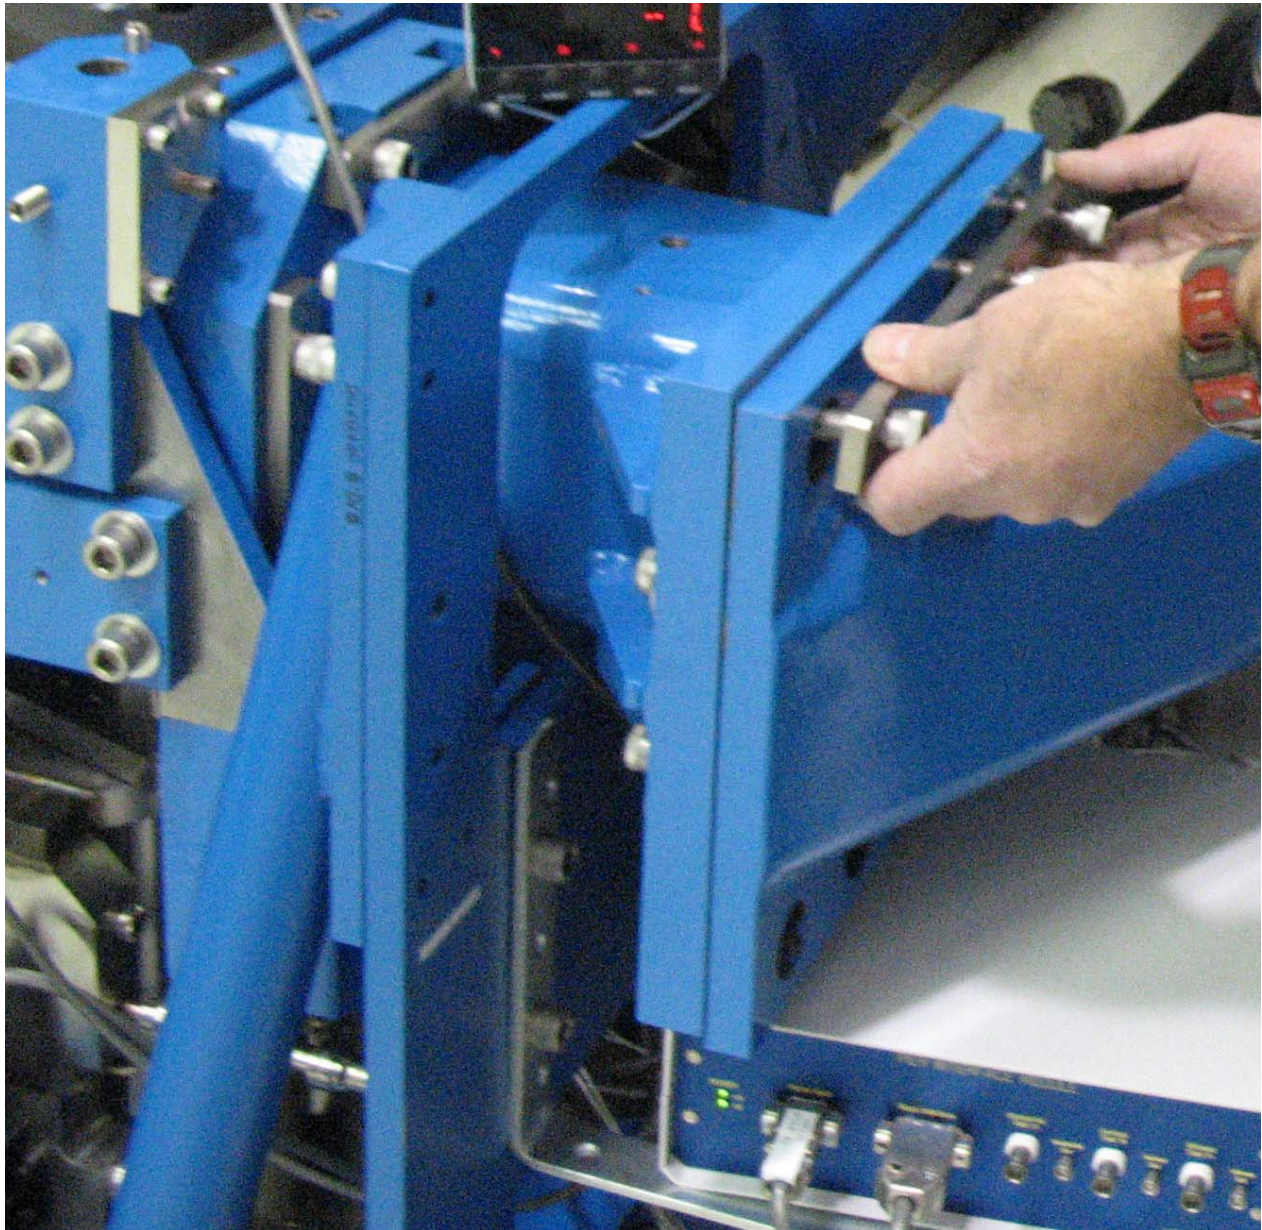
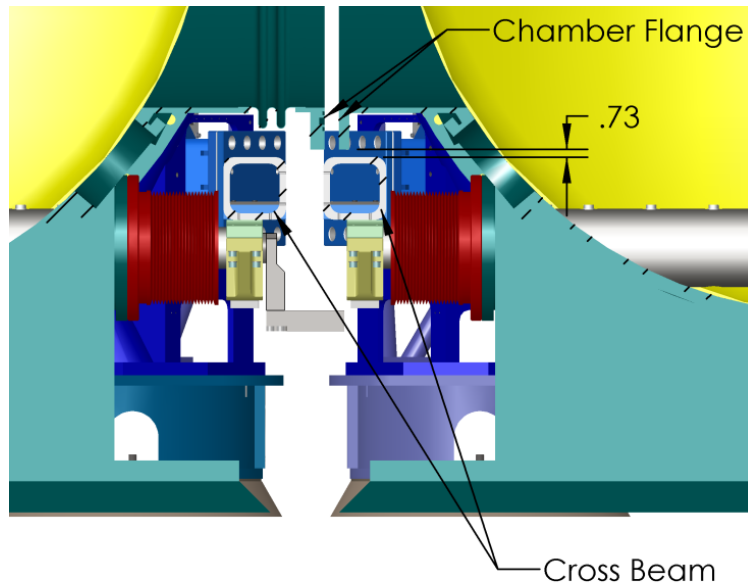
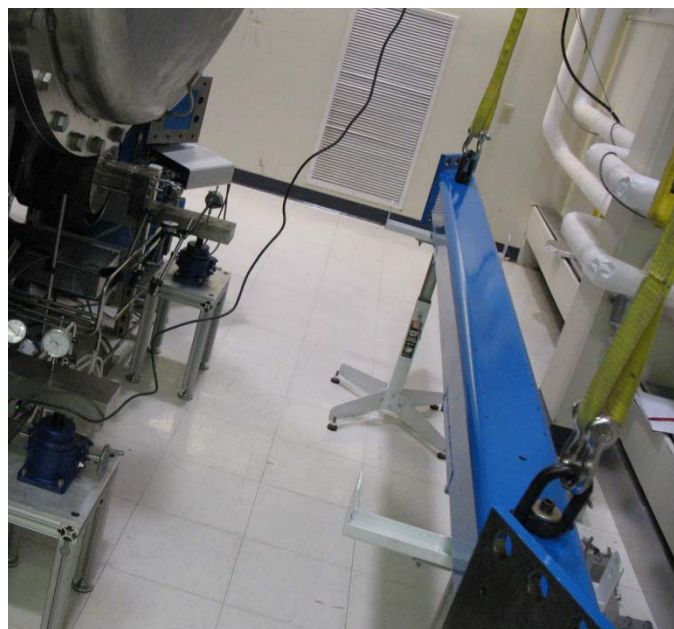

Figure 6
Figure 7
Figure 8
5.6 When the Support Structure is attached to the jack stands and overhead crane, as described above, the bolts between the Crossbeam and the Crossbeam Connector on either end should be loosened. Check the load cell readings on the crane, to ensure smooth transfer of weight. Simultaneously watch for changes in the height of the Support Tubes, as measured with the dial indicators. Once you are sure the weight is properly supported by the jack stands and the crane, you may begin loosening the screws within the Clamps. Once the Clamps are loose, you should raise the Crossbeam straight up and out, such that it comes out of contact with the Tubes. Remove the remaining pieces of the Clamps. Figure 6. and Figure 8
Note: On the chamber side without the bellows there is only .73 inches nominal between the top of the Cross Beam and the Bottom Tangent point of the flange on the bellows side of the chamber the Flange extends beyond the Cross beam (Figure 7) on this side you may not need to completely remove the Cross beam as shown in Figure 8.